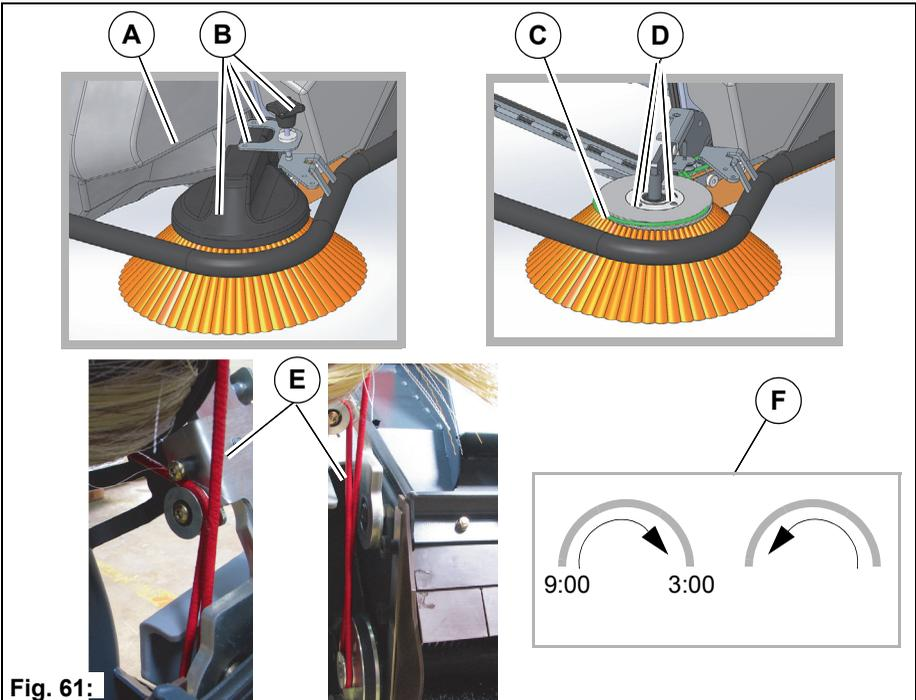

Fig. 61:
1. Switch off the machine and remove the dirt hopper **Fig. 61-A**.
2. Remove both M6x16 flanged button head bolts, the brush adjuster and the cover **Fig. 61-B**.
3. Remove the round belt from the side brush **Fig. 61-C**.
4. Loosen the three screws **Fig. 61-D** of the side brush and remove it.
5. Fit the new side brush in the reverse order. Pay attention to the run of the belt **Fig. 61-E**.
2. Rotate the adjusting wheel until half of the side brush is touching the floor. Compared to a clock, the sweeping level must be from approx. 9 o'clock to 3 o'clock on the floor **Fig. 61-F**.